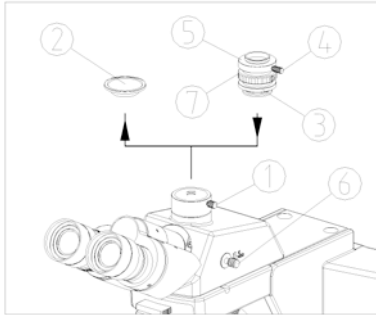

Fig. 29
- (1) Loosen the lock screw ① on the trinocular head, and remove the dust cap ② (See Fig.29).
- (2) Remove the dust cap from the c-mount adapter ③. Insert the c-mount adapter into the trinocular head as shown in the figure and tighten the lock screw ①.
- (3) Loosen the lock screw ④ on the c-mount adapter. Attach camera to the c-mount adapter.
- (4) For binocular observation, pull the light path selection lever ⑥ out and observe the image. If the image is unclear, rotate the focus adjustment ⑦ until image is in focus.